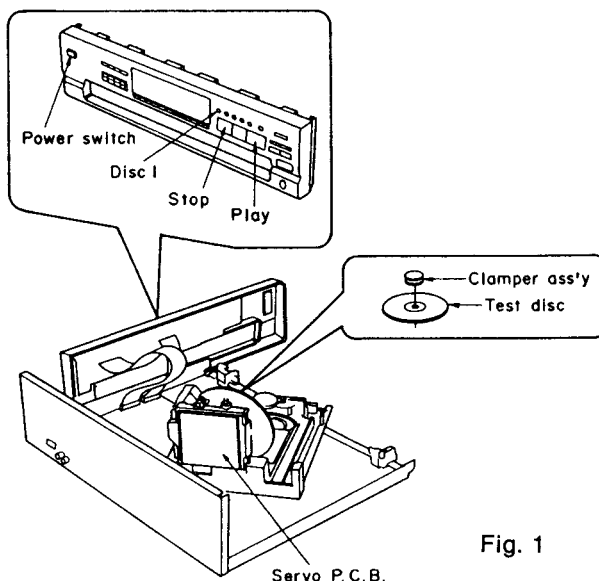

Fig. 1
6. Place the test disc and secure it by using clamber ass'y. (Refer to Fig. 1) (refer to "disassembly instructions" Ref. No. 11).